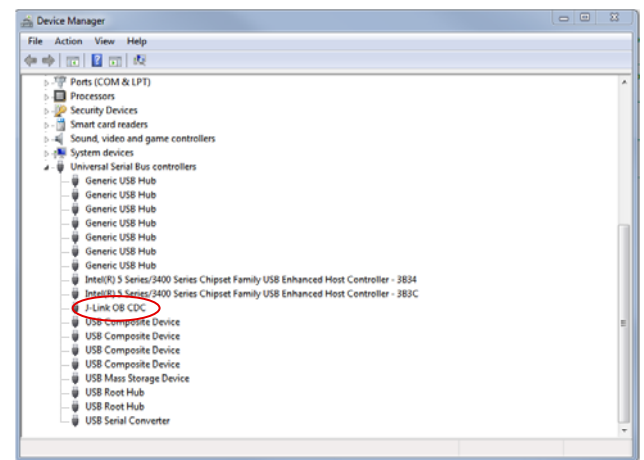

Figure 4. Device Manager
2. Verify that the emulator board appears in the Windows® **Device Manager** (see Figure 4).